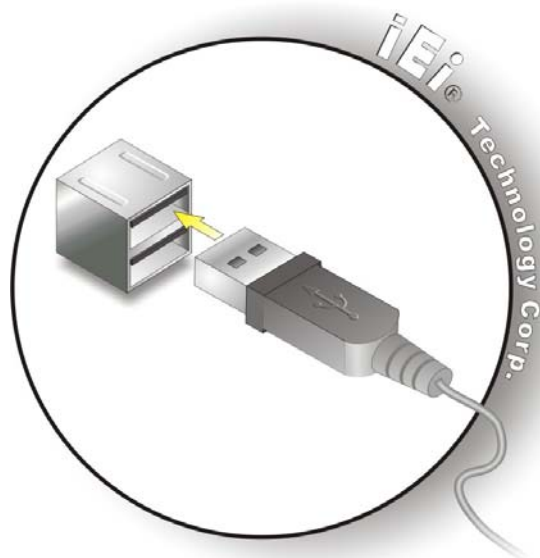

Figure 4-24: USB Device Connection
Step 2: Align the connectors. Align the USB device connector with one of the connectors on the bottom panel. See **Figure 4-24**.